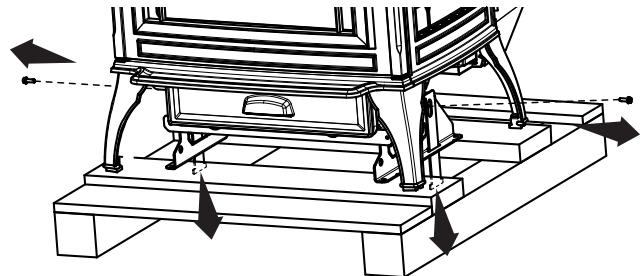

Figure 6.2
3. Using 3/8 socket or wrench remove bolts from side pallet mount brackets. Side pallet mount brackets will slide downwards from appliance (**Figure 6.2**).